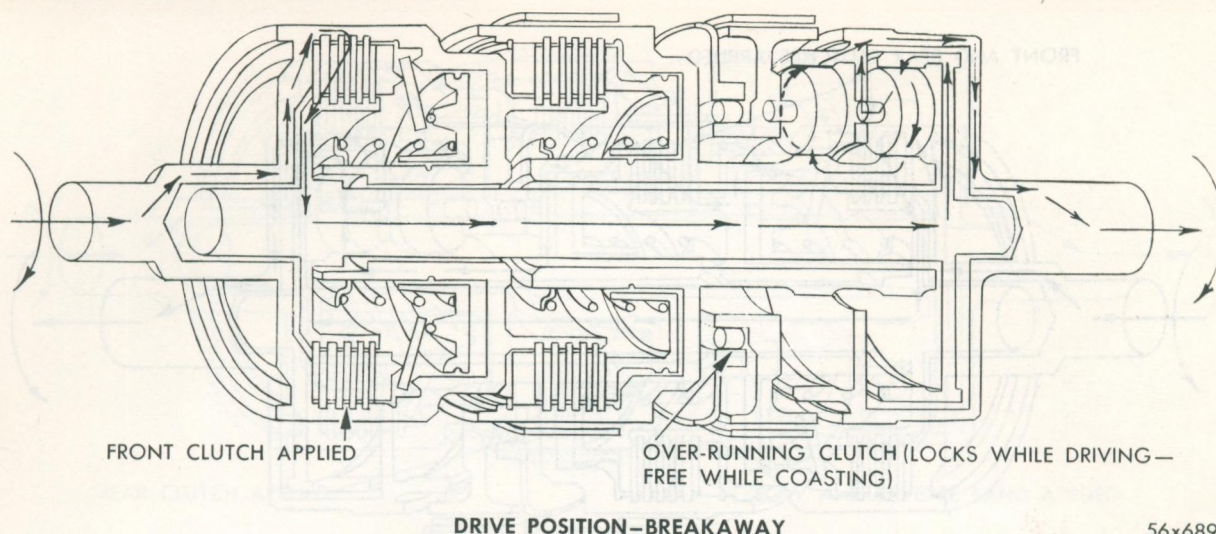

Fig. 27—Power Flow in D (Drive) Position—Breakaway
a. D (Drive) Position—Breakaway—(Fig. 27)